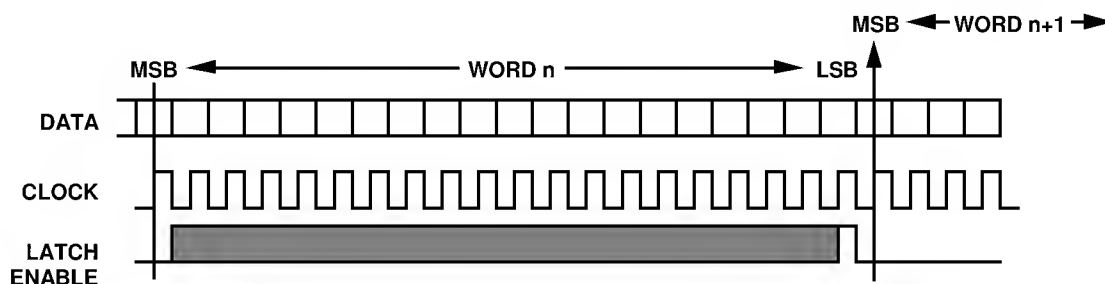

Figure 12a. Input Data
clocked into the input register on the rising edge of the clock signal (CLK). The LSB is clocked in on the 20th clock pulse. When all data bits are loaded, a low going latch enable (LE) pulse updates the DAC input. Figure 12a illustrates the general signal requirements for data transfer for the AD1862.